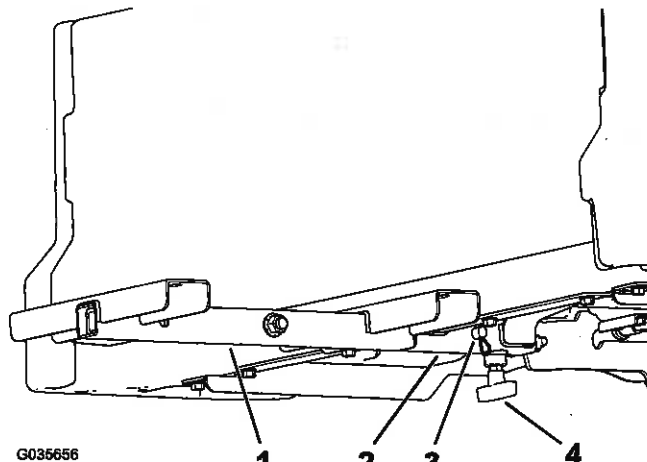

Figure 5
4. Insert the tube mount into the cargo bed receiver and secure it with the clevis pin (1/2 x 2 inches) and hairpin cotter (Figure 5).
5. Tighten the "T" handle on the cargo bed receiver (Figure 5).
3. Loosen the "T" handle on the cargo bed receiver (Figure 5).